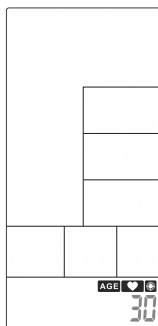

FIGURE 45
2. AGE value will be flashing, press UP or DOWN to adjust the value (Figure 45) and press ENTER to confirm, meanwhile the buzzer will beep 1s and and HEART RATE lasting lighting up.